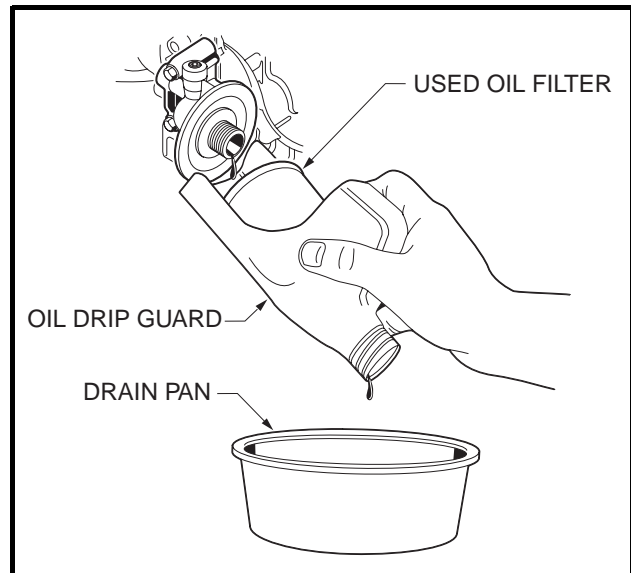

Figure 23 Remove Engine Oil Filter
- Remove the engine oil filter, turning it counterclockwise, allowing the residual oil in the filter port and filter to drain into the oil drain pan (Figure 23). See following NOTE.
NOTE: An oil drip guard can be used to prevent excess oil from dripping into the engine base place. Use an empty quart (one liter) container and cut the bottom off at an angle, then slide the open area of the container up and under the oil filter prior to removing. Position the port of the plastic container so oil will be directed into the oil pan (**Figure 23**). A drip guard can be by folding a piece of cardboard, thin metal, or plastic under the oil filter forming a channel to direct the filter port oil into the drain pan.